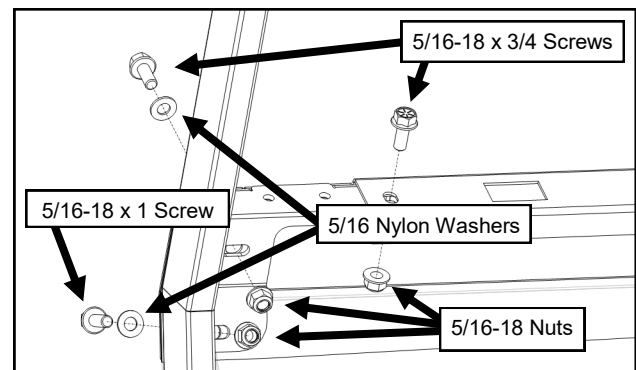

Fig. 9.1 (Cross Brace to Side Frame Fasteners)
- 9.1** Position the cross brace on the side frame tabs. Fasten the cross brace to the side frames. See Figure 9.1.